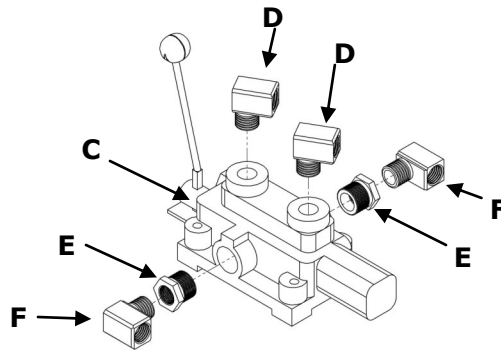

Figure 2
NOTE about open and closed loop hydraulics: If you plan on using the Hydraulic Hopper Lift Winch in conjunction with a Powerswing in a closed loop system, then part (F) will be a 1/2" FPT x 1/2" MPT x 1/2" FPT Street Tee. If the Hopper Lift will be used with a Powerswing in an open loop system or used by itself, then 1/2 MPT x 1/2 FPT Street Elbows should be used. It is best to tighten the fittings until they point the direction shown in figure 2. Fittings (D) should be installed later.
Now install the fittings labeled (D) from figure 2. These will be 1/2" MPT x 1/2" FPT Street Elbows. Install them pointing downward and towards the hydraulic winch.